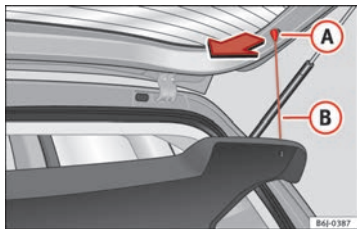

Fig. 100 Rear shelf.
- Unhook the loops ⇒ Fig. 100 **B** from housings **A**.